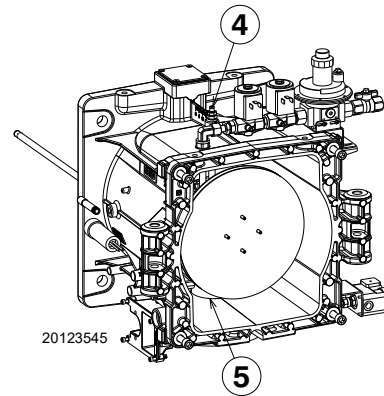

Fig. 18
- F release the gas distributor from the seat 5)(Fig. 18) and remove it.